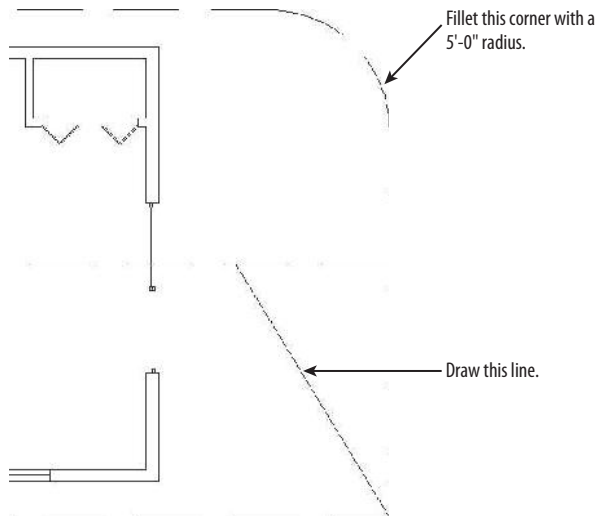

FIGURE 12.26: The right end of the cabin after some temporary changes are implemented
5. Activate the Nearest osnap, and pick a point on the roof's ridgeline. The right end of the cabin should look like Figure 12.26.